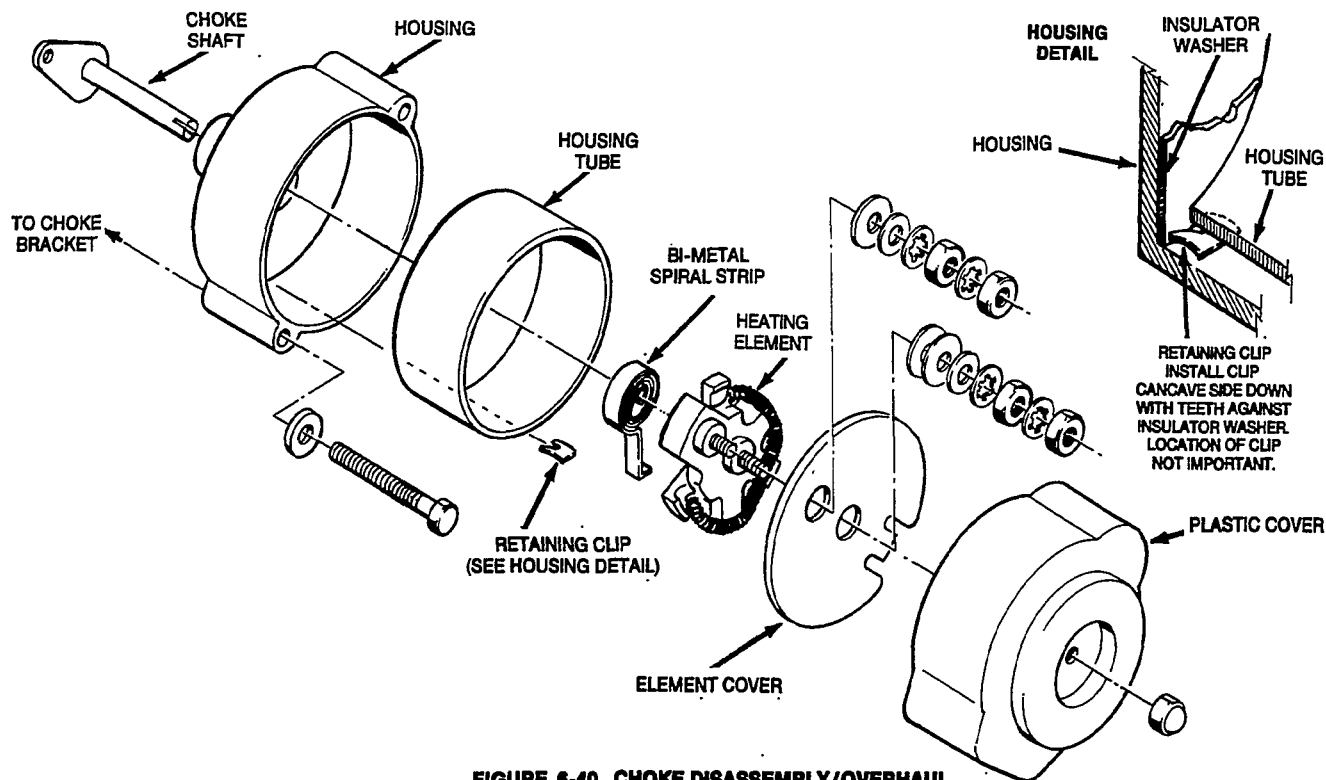

FIGURE 6-40. CHOKE DISASSEMBLY/OVERHAUL
1. Remove the protective plastic choke cover (see Figure 6-40) and loosen the choke cover screws.